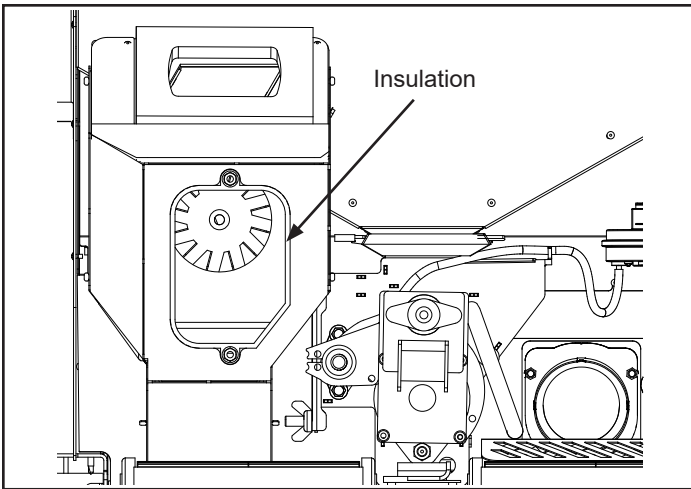

Figure 2.8
- k. Before re-installing the access cover, make sure the insulation between the two layers is in tact, Figure 2.8.